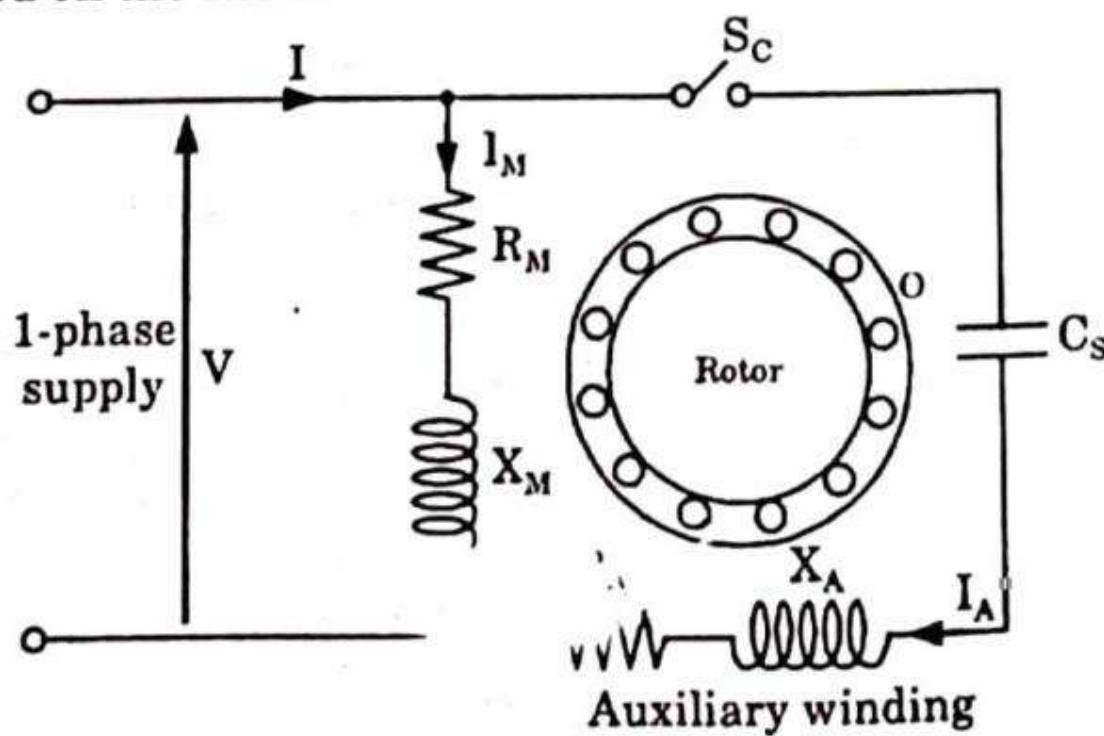

Fig. 4.31.2. Capacitor start motor.
1. Fig. 4.31.2 shows the connections of a capacitor-start motor. It has a cage rotor and its stator has two windings namely, the main winding and the auxiliary winding (starting winding).
2. The two windings are displaced 90° in space. A capacitor C_s is connected in series with the starting winding. A centrifugal switch S_c is also connected as shown in Fig. 4.31.2.